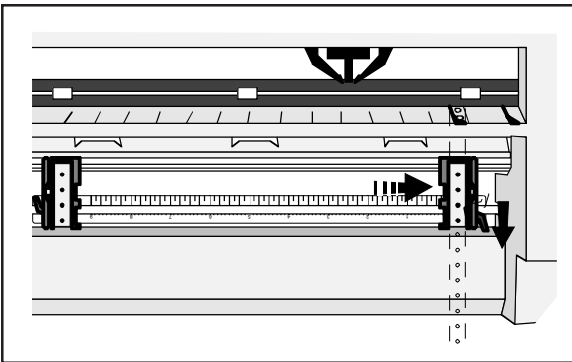

Figure 3-7. Aligning the Left-Edge Tractor
4. Slide the left-edge tractor as needed so that the pin belt aligns with the circles on the paper scale. Then, lock the left-edge tractor into place, as shown in figure 3-7.